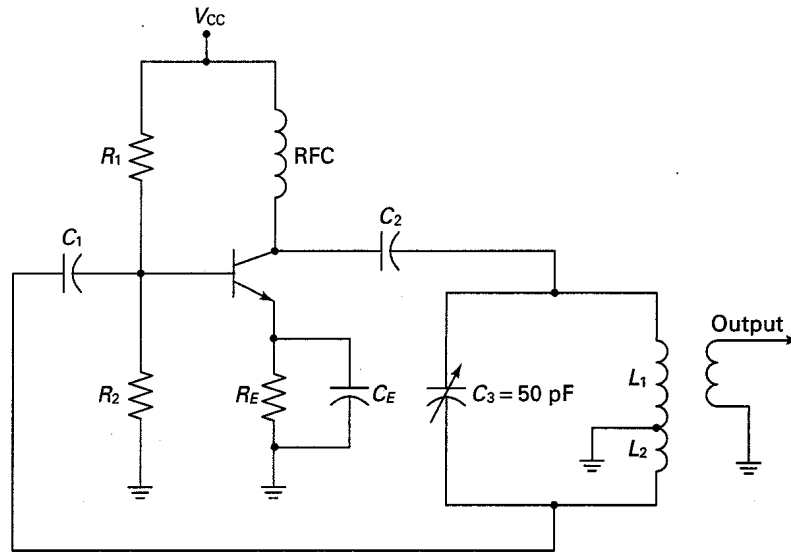

Fig. 2-21
- 2.5 Refer to Fig. 2-21. Assume  $L_1 = 496.67 \mu\text{H}$  and  $L_2 = 9.93 \mu\text{H}$ . Calculate the following: (a)  $f_{\text{osc}}$ ; (b) the feedback fraction  $B$ ; (c)  $X_{L_1}$ ,  $X_{L_2}$ , and  $X_{C_3}$ ; (d)  $X_T$  (net reactance) of the  $L_2 C_3$  branch.
2.6 Refer to Fig. 2-21. Assume that it is desired to obtain an oscillating frequency of 500 kHz. If  $B = \frac{1}{25}$ , calculate: (a)  $L_T$ ; (b)  $L_1$  and  $L_2$ ; (c)  $X_{L_1}$ ,  $X_{L_2}$ , and  $X_{C_3}$ ; (d)  $X_T$  of the  $L_2 C_3$  branch.